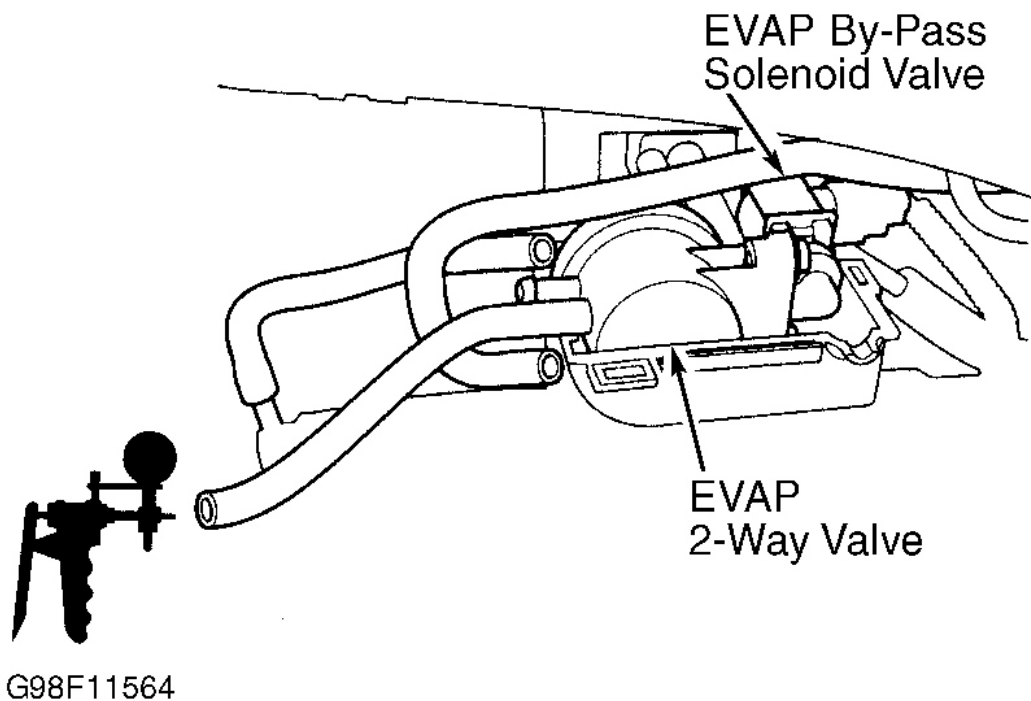

Fig. 12: Locating EVAP 2-Way Valve Vacuum Hoses
1. Disconnect vacuum hose from EVAP 2-way valve, and connect vacuum pump/gauge to hose. Install a jumper wire between ground and PCM connector "A" (32-pin connector) terminal No. 3 (Blue wire). See **Fig. 2**. Turn ignition on. Apply vacuum to EVAP 2-way valve. See **Fig. 12**. If 2-way valve holds vacuum, go to next step. If 2-way valve does not hold vacuum, EVAP by-pass solenoid valve and EVAP
4. Plug upper port of EVAP 2-way valve. Monitor fuel tank pressure (FTP) sensor voltage with a scan tool or use a DVOM to measure voltage between PCM connector "A" (32-pin connector) terminal No. 29 and PCM connector "C" (31-pin connector) terminal No. 18. See **Fig. 2** and **Fig. 4** . Turn ignition on and slowly apply vacuum to EVAP 2-way valve until voltage drops to about 1.5 volts. See **Fig. 12** . If voltage drops to 1.5 volts and holds for at least 20 seconds, EVAP by-pass solenoid valve and EVAP 2-way valve are okay at this time, proceed to **EVAP CANISTER VENT SHUT VALVE (CVSV) TEST** . If voltage does not drop to 1.5 volts and hold for at least 20 seconds, repair leak between EVAP by-pass solenoid valve, EVAP 2-way valve, FTP sensor and "O" rings.
1. Disconnect vacuum hose from EVAP 2-way valve, and connect vacuum pump/gauge to hose. Turn ignition on. Apply vacuum to EVAP 2-way valve. See **Fig. 12** . If valve does not hold vacuum, go to next step. If valve holds vacuum, EVAP by-pass solenoid valve and EVAP 2-way valve are okay at this time. Perform EVAP Canister Vent Shut Valve (CVSV) test. See **EVAP CANISTER VENT SHUT VALVE (CVSV) TEST** .
1. Disconnect vacuum hose from EVAP canister filter, and connect vacuum pump/gauge. See **Fig. 12** . Using a jumper wire, connect PCM connector "A" (32-pin connector) terminal No. 4 (Light Green/White wire) to body ground. See **Fig. 2** . Turn ignition on, and apply vacuum to hose. If EVAP CVSV does not hold vacuum, go to next step. If EVAP CVSV holds vacuum, EVAP CVSV is okay at this time. Perform EVAP canister system leak test. See **EVAP CANISTER SYSTEM LEAK TEST** .